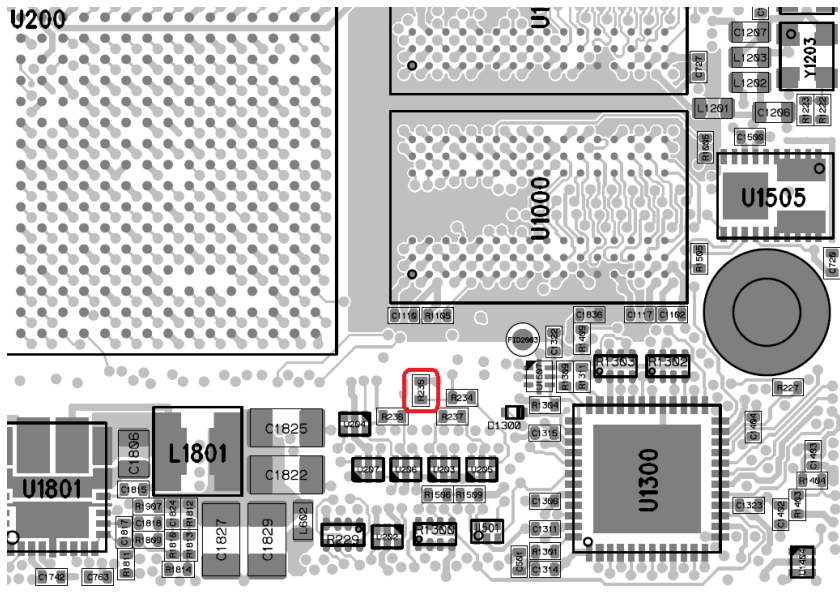

Figure 16: JTAG Boot Mode Resistor - Assembly Drawing Top View (lower right part) for Revision 4 Modules
2. Short-circuit R235 (see Figure 16) while powering-up the module (in order to sample the MPSoC boot selection pins correctly for JTAG boot mode)